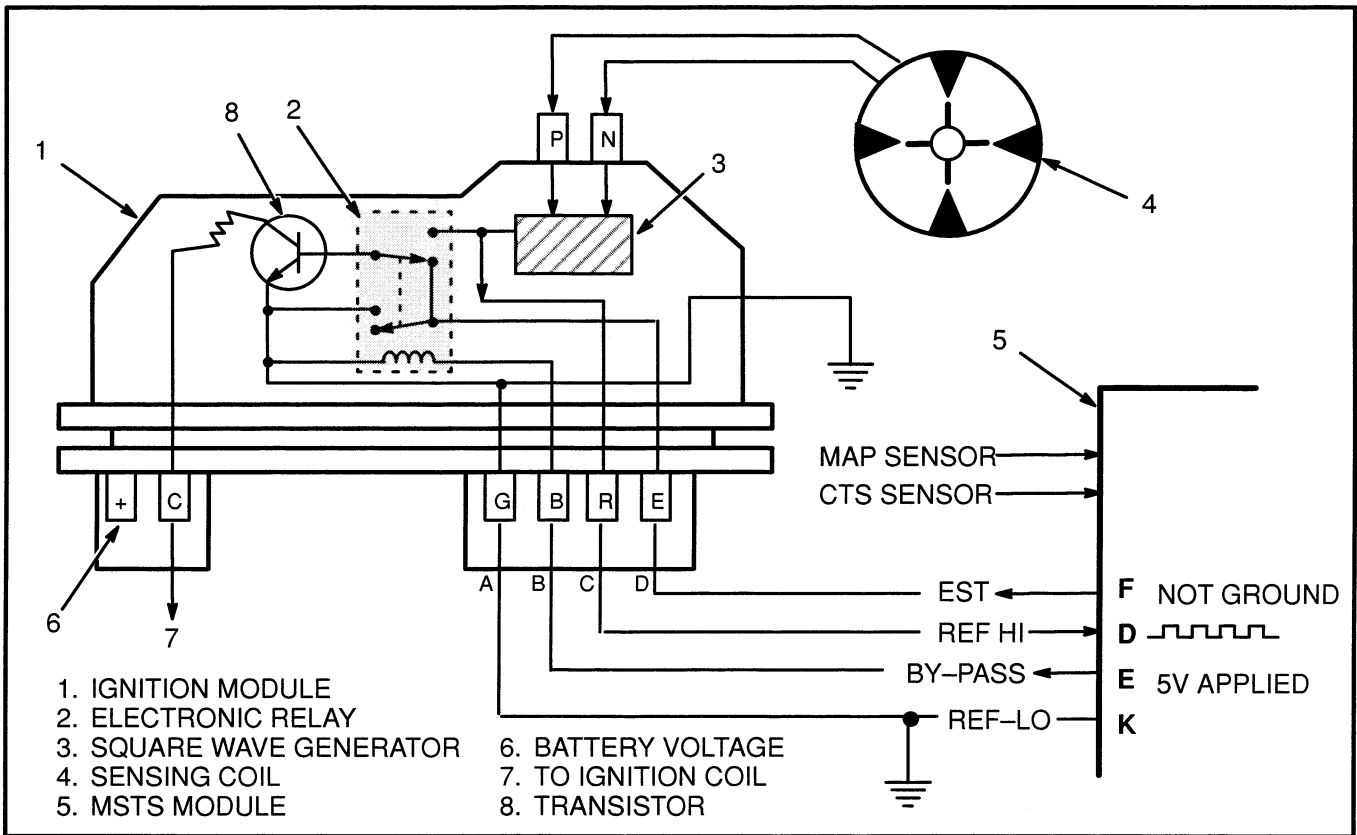

FIGURE 4. IGNITION MODULE WHEN ENGINE IS RUNNING
See FIGURE 4. When the engine speed is approximately 400 rpm, the MSTS module determines that the engine is running and applies 5 volts on the "BY-PASS" wire to the ignition module. This voltage energizes the electronic relay (2) and makes the following changes: The "EST" wire is not grounded and is now connected to the base of the transistor (8). The sensing coil is disconnected from the base of the transistor (8).